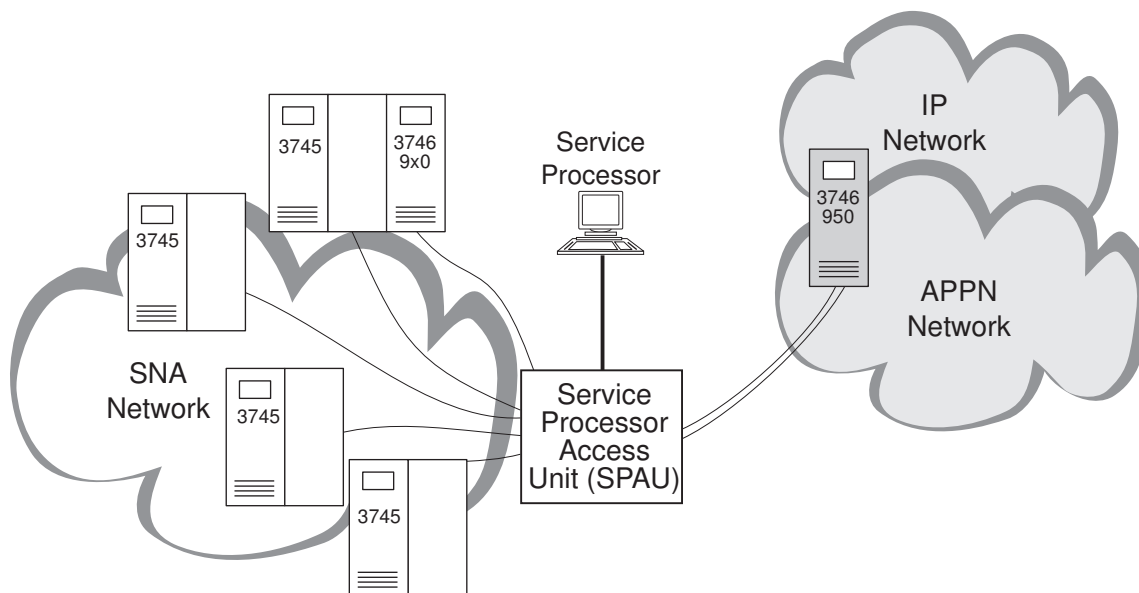

Figure 2-1. Example 1 of a Maximum Configuration. Service Processor running four 3745s, one 3746-900 (SNA), and one 3746-950 (IP, or APPN/HPR).
- Four 3745s, one 3746-900 operating in an SNA mode (controlled by NCP), and one 3746-950 (see Figure 2-1 on page 2-2).